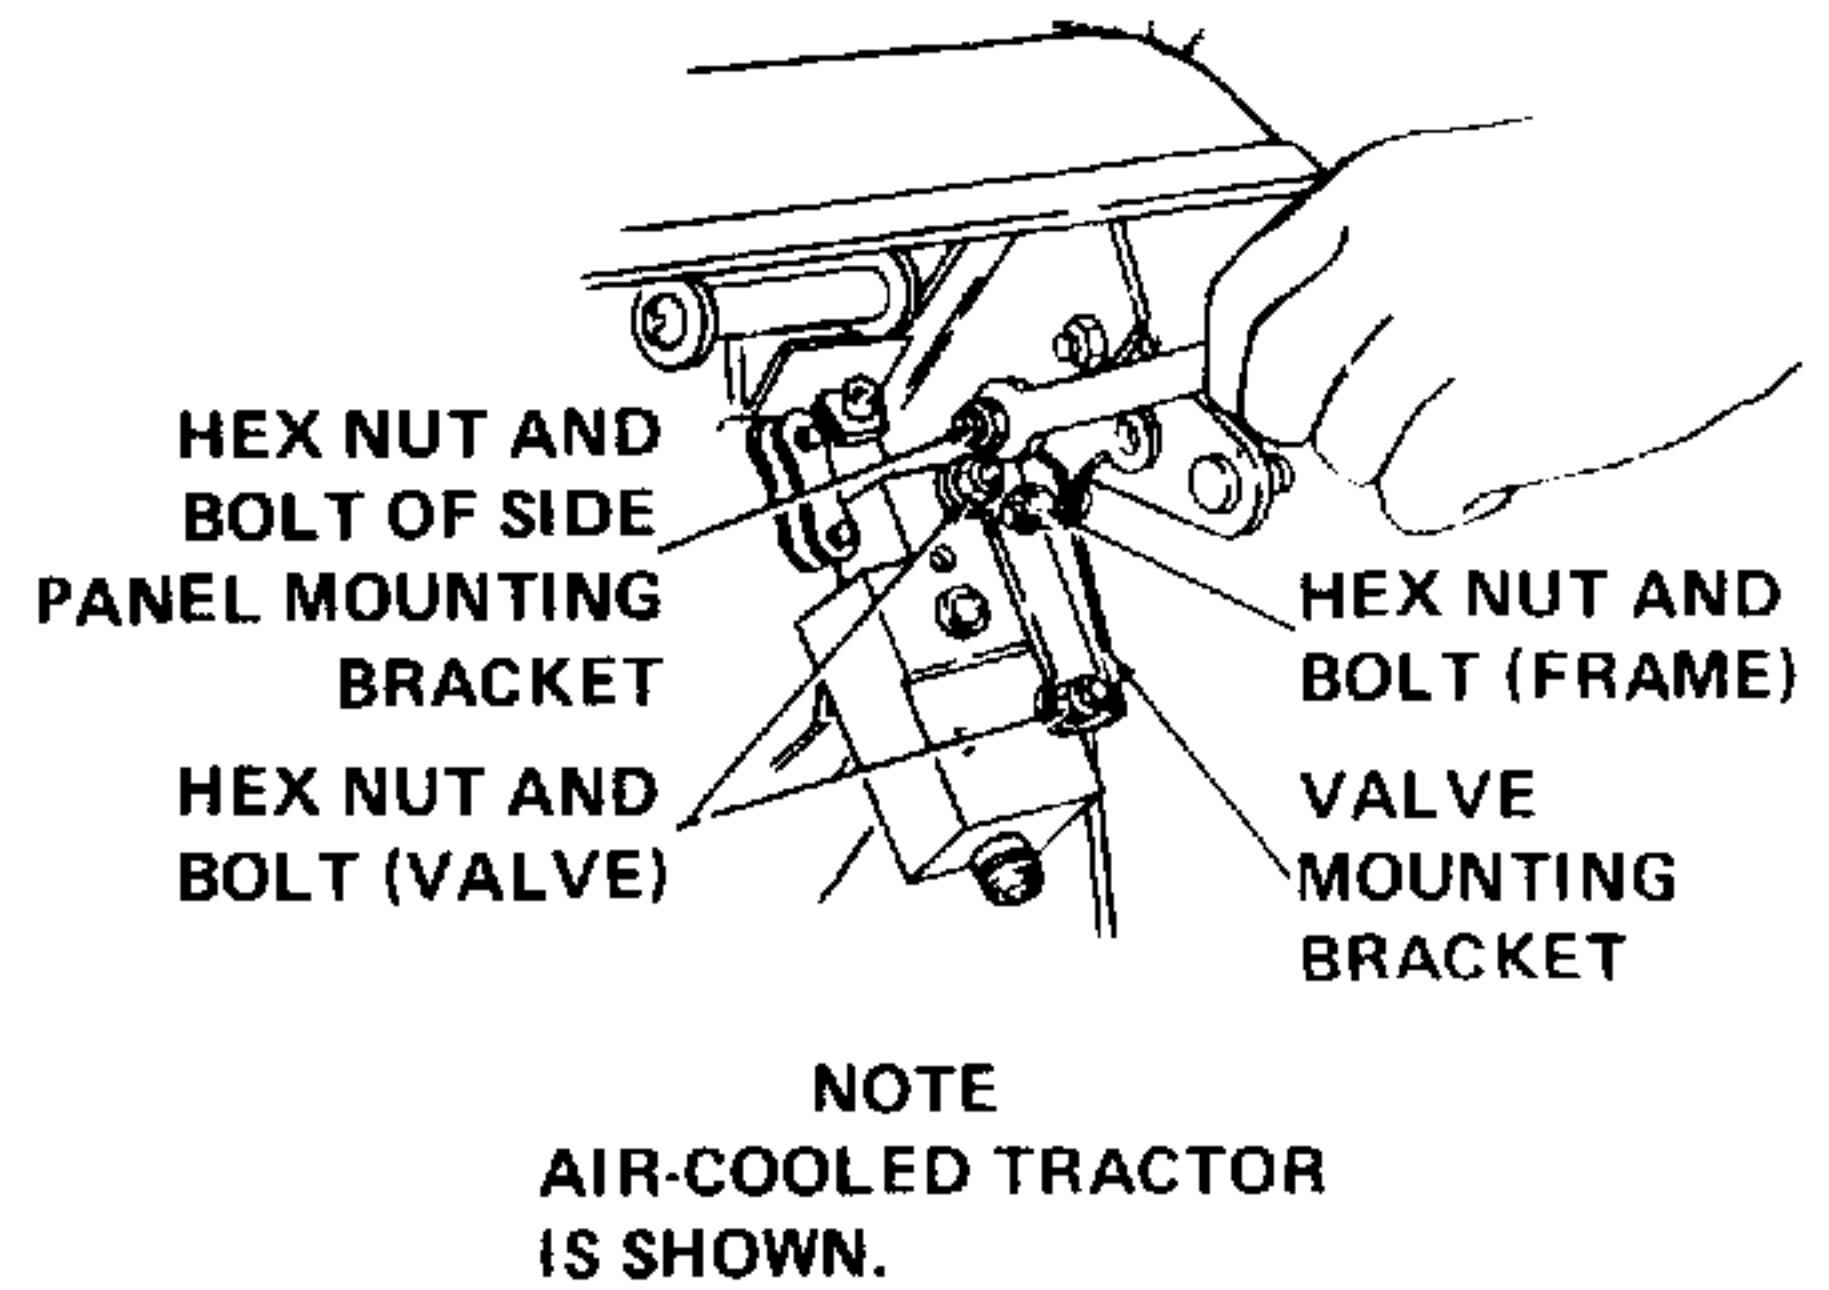

Figure 7-75. Removing Hardware From Mounting Brackets.
2. Remove and discard lower hex nut and bolt (Figure 7-75) from left side panel mounting bracket.